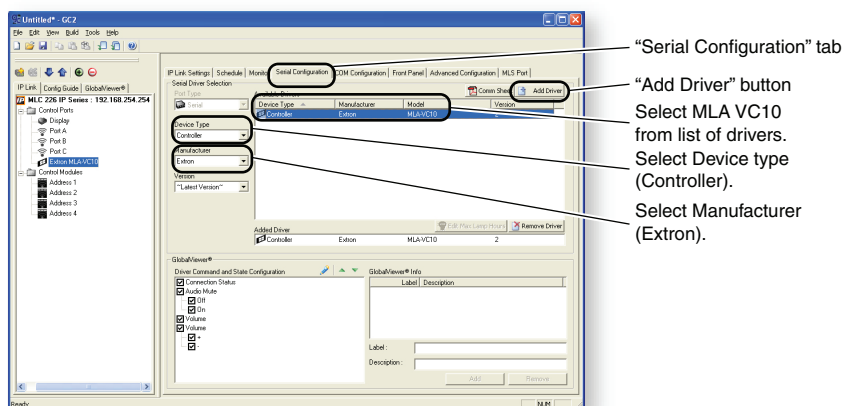

Figure 3-2 — Adding a driver
6. Select "MLS port" in the left pane and the **Serial Configuration** tab in the right pane (see figure 3-2 below).